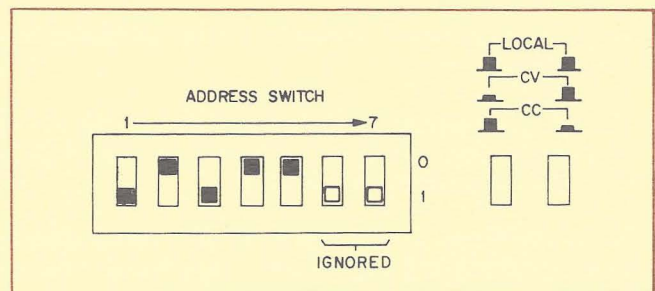

Figure 9-1. 6002A Listen Address and Mode Switches
There are seven switches, but only the left five are used. Note that the 6002A address cannot be read directly off of the rear panel in binary. The least significant bit is farthest to the left as shown in figure 9-1. The octal address shown is 5.
Constant voltage (CV) or constant current (CC) operation must also be set (also shown in figure 9-1). The HP-IB option 001 circuits are factory adjusted for CV operation2. See the "Programming" section for more details.
One logical unit should be assigned to the 6002A. Assuming the switches are set to an address of 5 as shown in figure 9-1, the LU assignment may be performed from File Manager,